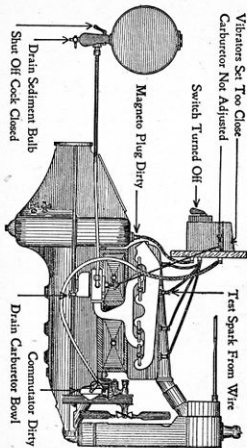

Figure 91.—Troubles Causing a Failure to Start Engines.
1. Failure of the engine to start. Figure 91.